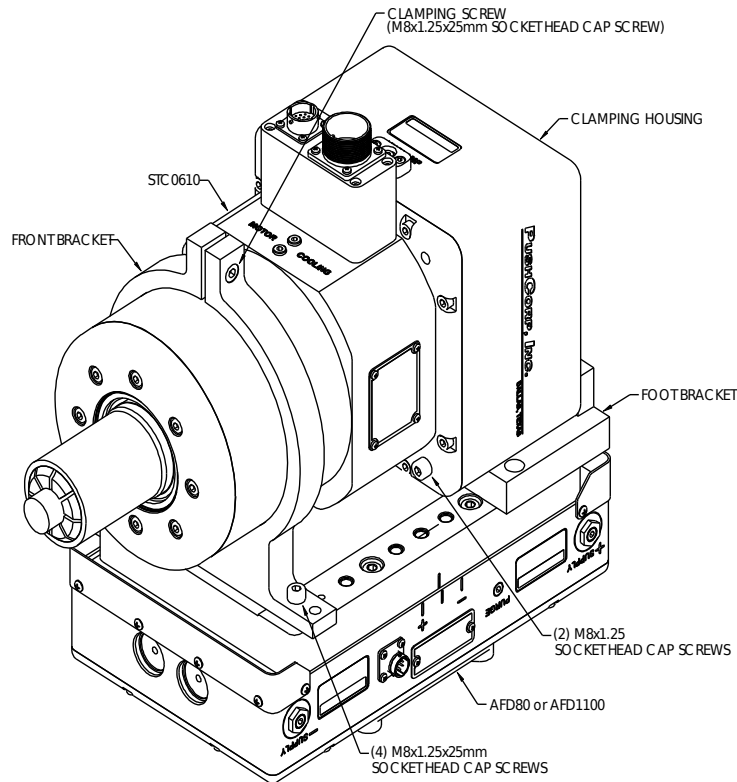

Figure 1. 0610 Parallel-Axis Configuration
For the Parallel-Axis configuration, shown in Figure 1, the 0610 attaches to the AFD Carriage with two brackets and four (4), M8x1.25x25mm, Socket Head Cap Screws. The 0610 is positioned on the Carriage with the Foot Bracket while the Front Bracket is attached to the forward mounting holes. The Clamping Screw on the Front Bracket should be loose to allow sliding movement along the motor. Attach the Foot Bracket to the Clamping Housing (Mounting Plate for the SM0610) using two (2), M8x1.25 Socket Head Cap Screws. When the desired position is achieved secure the brackets to the Carriage, and tighten the Clamping Screw. The M8x1.25, Socket Head Cap Screws, must be the proper length and tightened to the torque specified in Section 4.0.